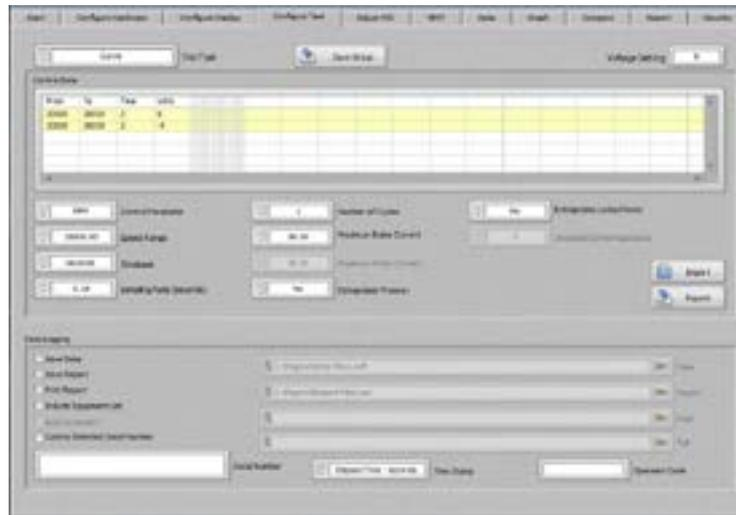

Fig.4-6 Curve Test Parameters with Motor Reversal
3. To have the motor direction reversed during a test, simply enter a negative voltage, as shown in Figure 4-6.